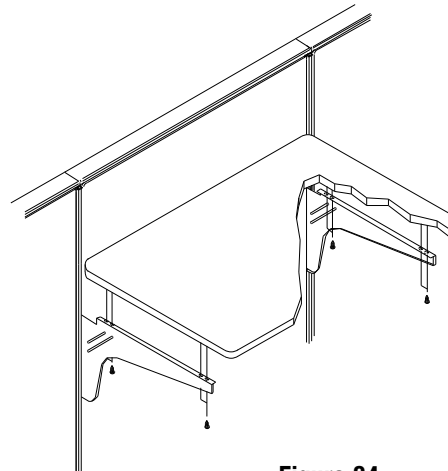

Figure 34
8. Set the worksurface on the cantilever brackets and line up the worksurface pilot holes with the slots on the cantilever brackets. Secure the worksurface to the brackets using (2) #14 x 3/4" screws in each bracket. **Figure 34.**